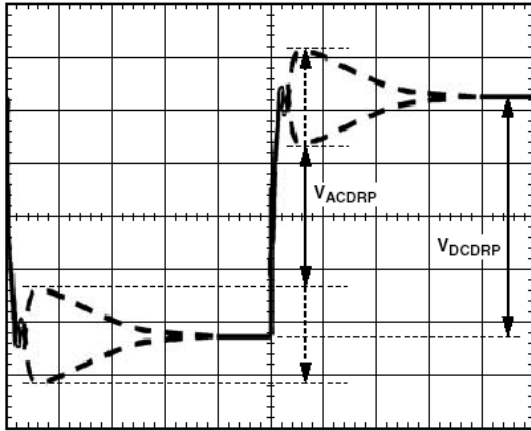

Figure 8. AC Loadline Waveform
15. You will see a waveform that looks something like Figure 8. Use the horizontal cursors to measure VACDRP and VDICDRP as shown. **DO NOT MEASURE THE UNDERSHOOT OR OVERSHOOT THAT HAPPENS IMMEDIATELY AFTER THE STEP.**